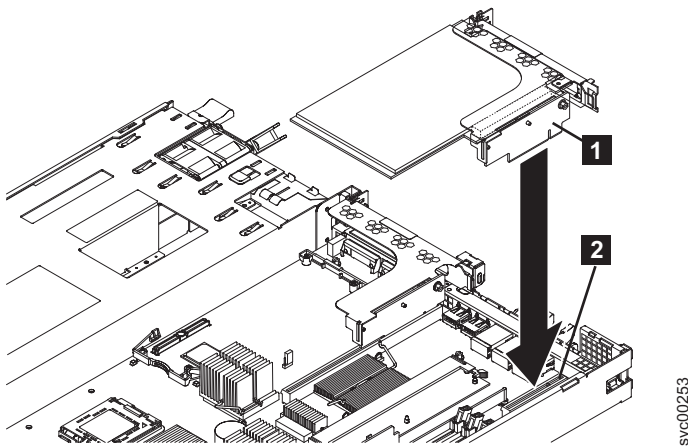

Figure 212. Replacing the Fibre Channel riser-card assembly
5. Align the Fibre Channel adapter riser-card connector with the connector on the system board, as shown in Figure 212.